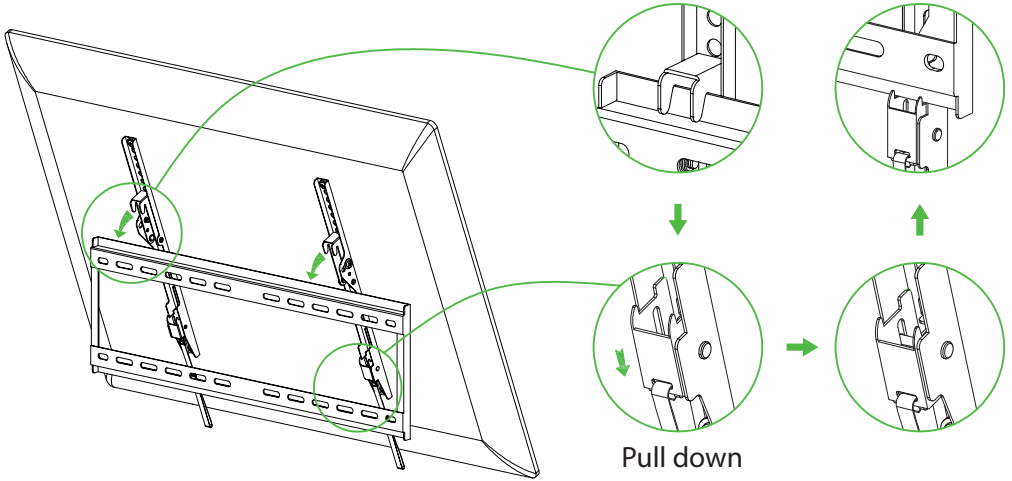

Figure 4
Step 3: Hang the pre-assembled TV unit on the Wall Plate. Pull down to release the safety catch on both Brackets to attach the assembly to the bottom part of the Wall Plate. (Figure 4)